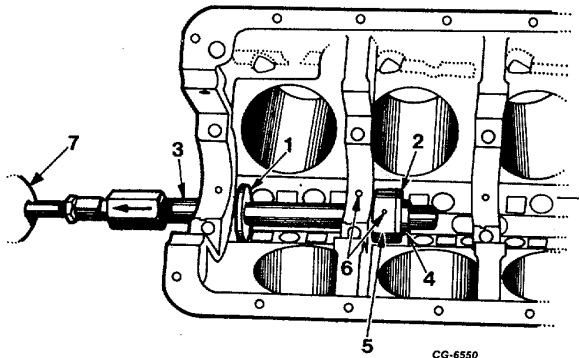

Fig. 86 Installing Second Camshaft Bearing
5. Position new bearing on second adapter and "C" washer behind adapter (Figure 86). Align oil holes and pull in second bearing.